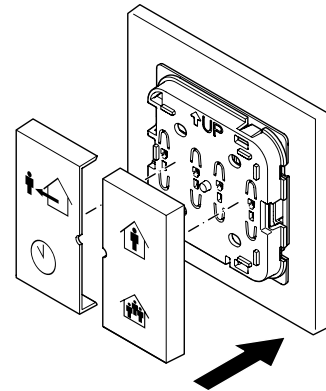

Figure 5 - place the buttons
4. Place the buttons (fig. 5).